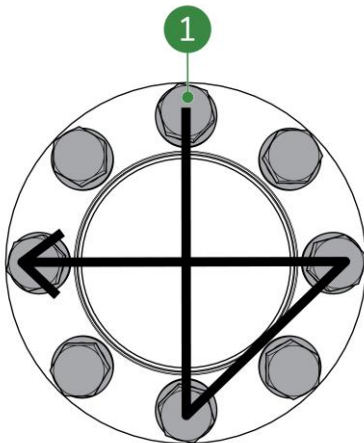

Figure 5-14: Crosswise tightening
8. Tighten the bolts and washers crosswise (Figure 5-14) until 4.2 Nm is reached for each bolt.